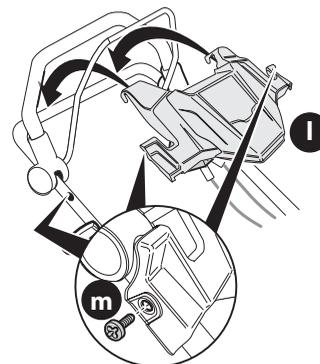

Figure 5
- If equipped, position the premium drive control cover (l) onto the upper handle as shown in (Figure 5).